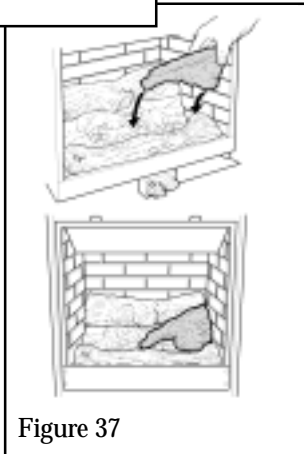

Figure 37
4. Place the right side log in the hollow at right of the base log. Rest the narrow nose of this log on the projection at front centre of the base log – ***It is important that the narrow nose does not drop down to touch the burner.*** See figure 37.